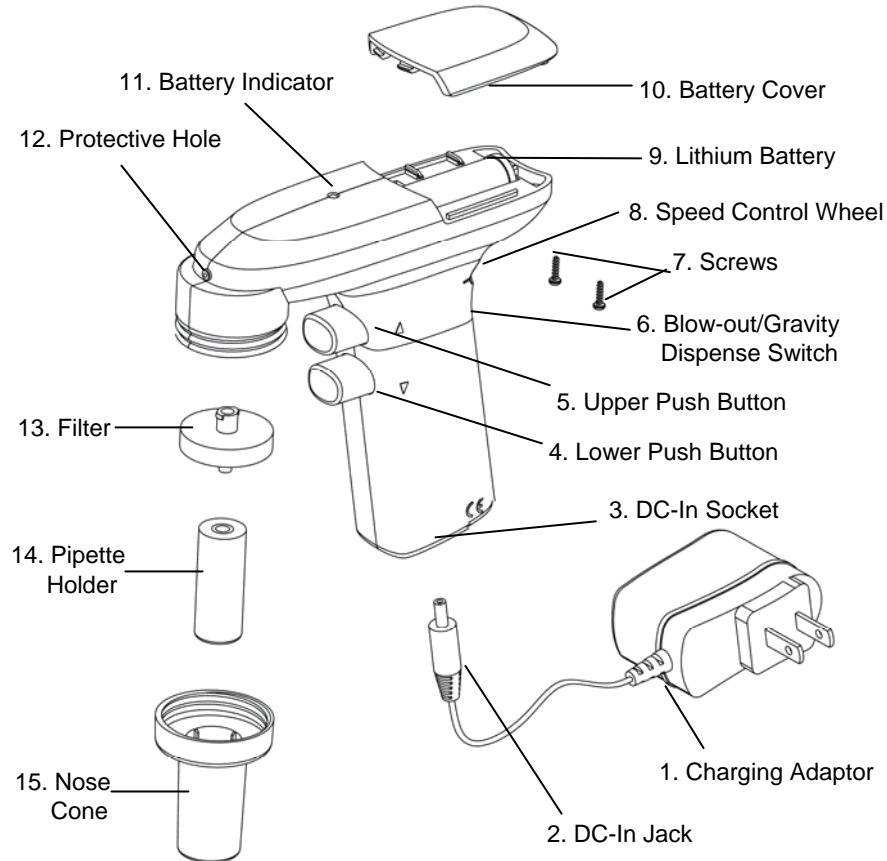

Figure 1. Overview of the BasicPipette Pipette Controller:
The hydrophobic filter (13) and pipette holder (14) will require occasional replacement, particularly when aspirating speed is decreased. Rotate the nose cone (15) counter-clockwise direction to loose it (See Fig. 1). Remove or replace the wetted, dirty filter/worn pipette holder (14) with the new ones. Reassemble the device.